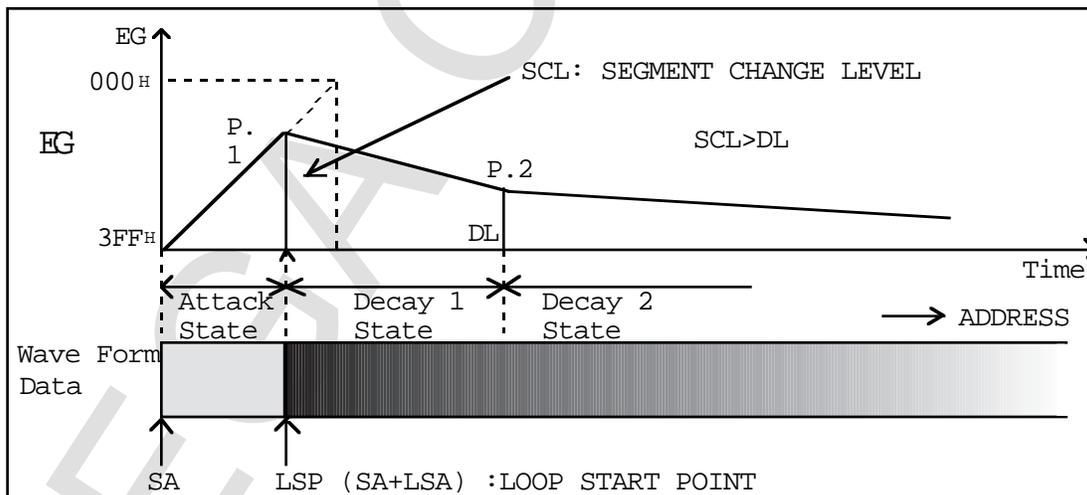

Figure 4.16 Transition (2) from the Attack State to Decay 1
- When the wave form read address reaches the loop start point, and the "SCL" at this point (EG level) is larger than the "DL" (decay level) (reversed when compared to the actual EG level). (Figure 4.16)